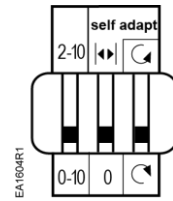

Figure 15. Self-adapt Switch in OFF Position (Factory Setting).
- To use the entire 0(2) to 10V input signal to control the adjusted range, raise the tab located on the lower left-hand side of the actuator and locate the DIP switches. See Figure 15.
- Set the self-adapt DIP switch (middle) to (ON).